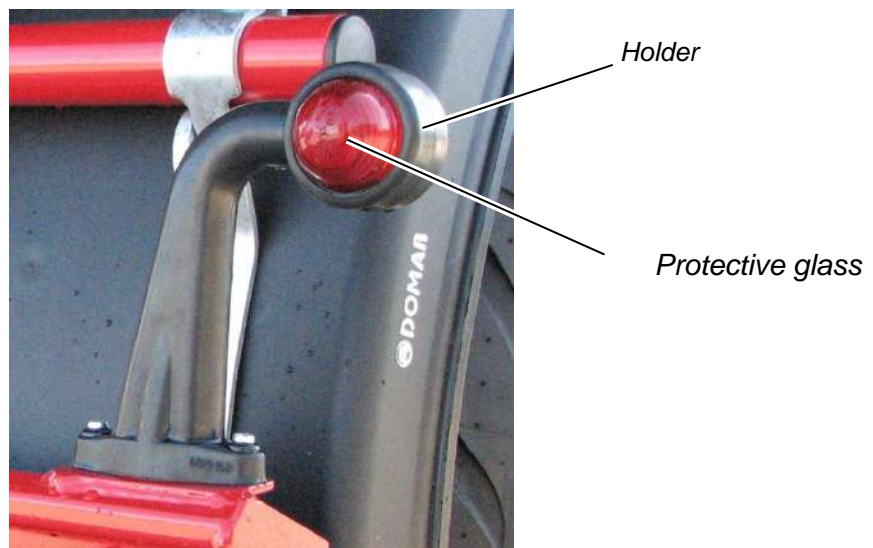

Figure 56: Position light
- ⇒ Press the protective glass out of its holder (see Figure 56).